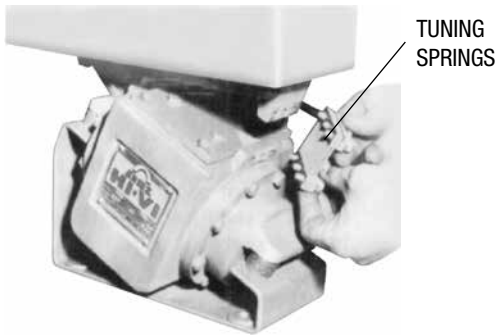

FIGURE 12
3. Remove the alignment plate and install tuning springs in the proper number and ply to give the desired displacement (see Figure 12). See tuning instructions.